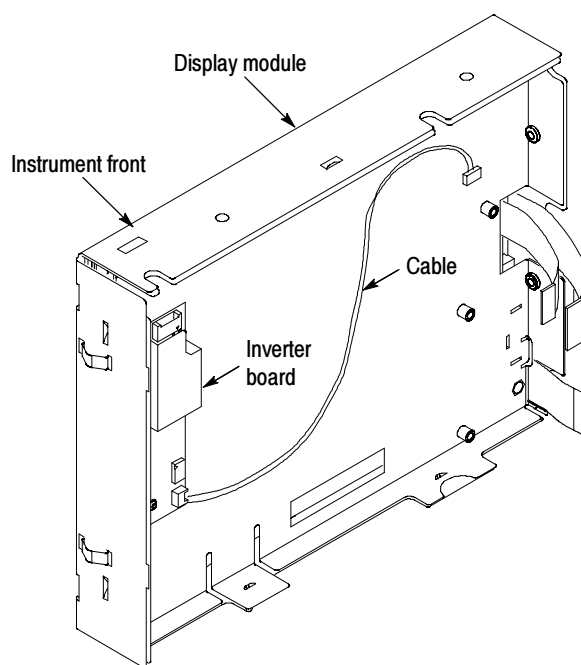

Figure 1: Inverter board and cable location (TDS5000B series oscilloscope shown).
2. Locate the Inverter board assembly and cable. These are on the back of the Display module, as shown below in Figure 1.